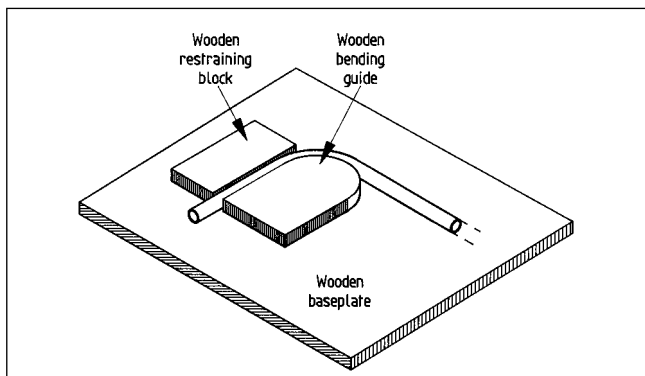

Fig 25.17: Tube or rod bending set-up
- Always bend round a former shaped to the required radius (Fig 25.17).